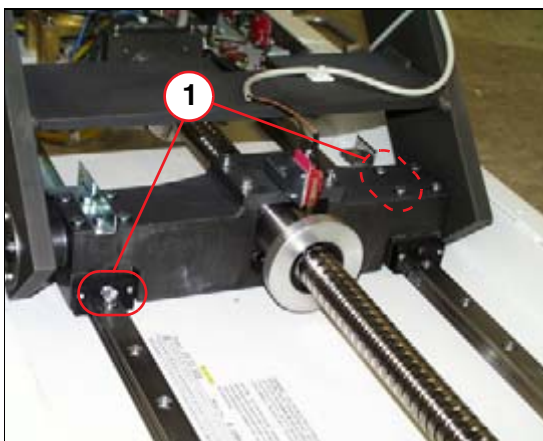

Fig. 6: Scissor: location of grease nipple
- Place the connector of the lubricant gun on one of the lubrication fittings of the guide rail to be lubricated (1/Fig. 6 / p. 27).